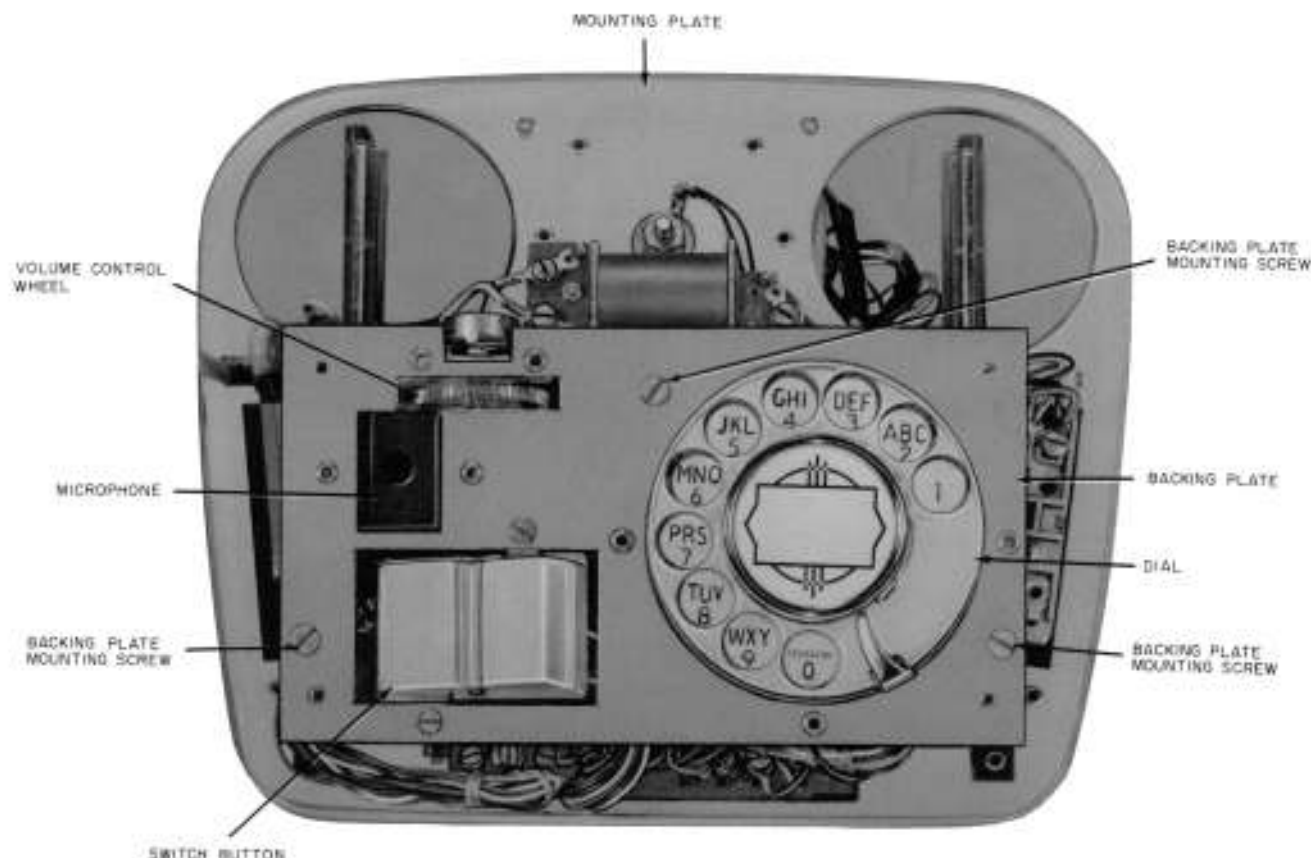
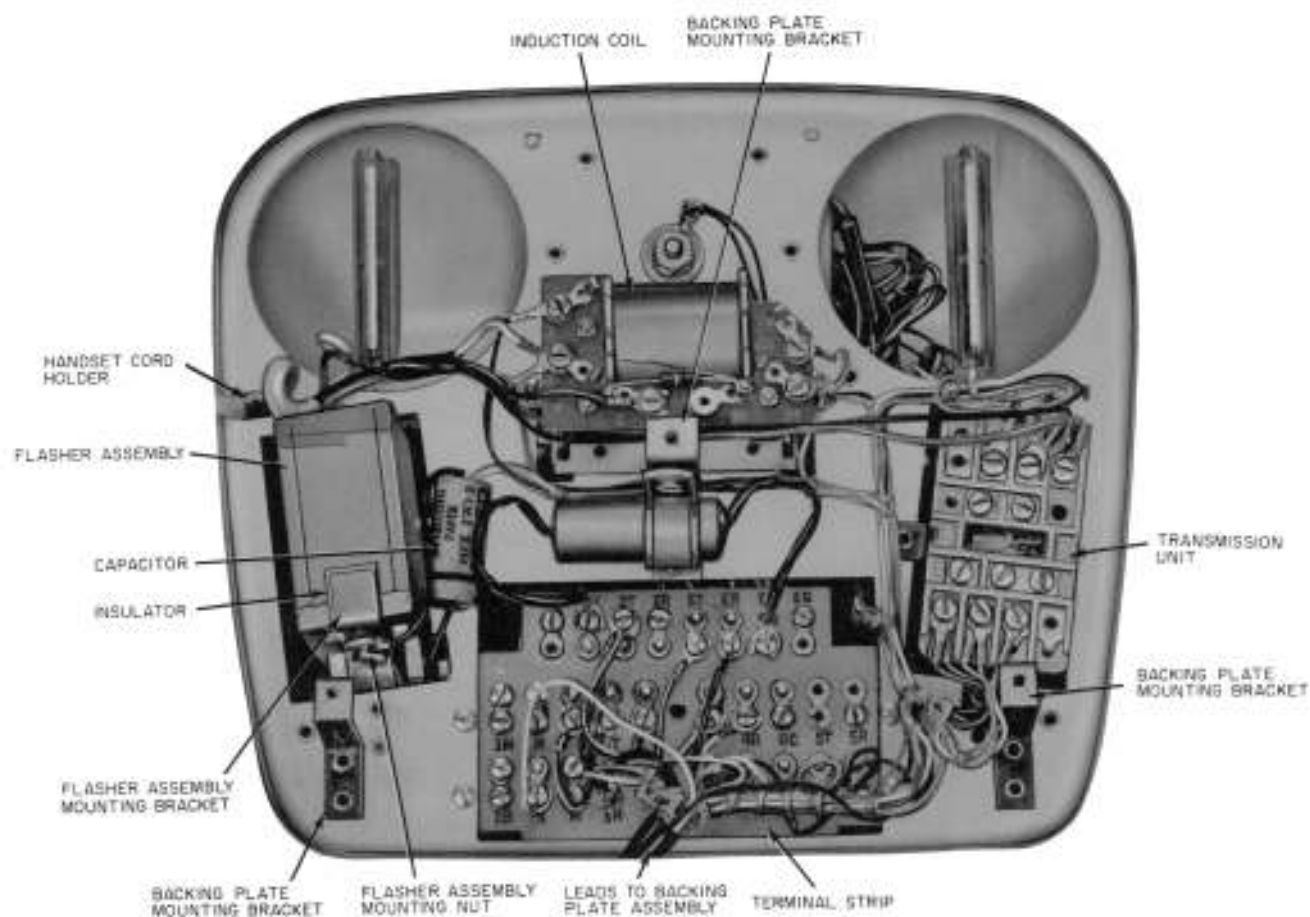

Figure 6. Main unit assembly with the upper housing removed.
Figure 7. Main unit assembly with the upper housing and backing plate removed.
3.3 To examine dial action, first remove the upper housing as described in section 3.1. When the upper housing is removed, the backing plate (with dial, switch button, microphone, and speaker volume control attached to it as in figure 6) is easily accessible. The three flat-head backing plate mounting screws (figure 6) must be removed. Then lift the backing plate from its mounting brackets (figure 7) and turn it over to examine the dial action. Do not disconnect the dial leads unless the dial must be replaced.
transmission unit (figure 7) terminal No. 3. Then disconnect the yellow wire from induction coil (figure 7) terminal No. 4, and the red wire from induction coil terminal No. 5.
Release the handset cord holder from the Speakerphone mounting plate (figure 7) and pull out the old cord. The new cord can now be connected.
3.8 To remove the flasher assembly (figure 7) remove the upper housing of the main unit assembly as described in section 3.1. Then remove the backing plate assembly as described in section 3.3. With a 5/16" spin-tight wrench remove the flasher assembly mounting nut shown in figure 7. When the mounting nut and its associated washers have been removed, lift the flasher assembly from its mounting bracket. An insulator (figure 7) which separates the flasher assembly from the mounting bracket will come out with the flasher assembly. Unsolder all the wires attached to the terminals of the flasher assembly.